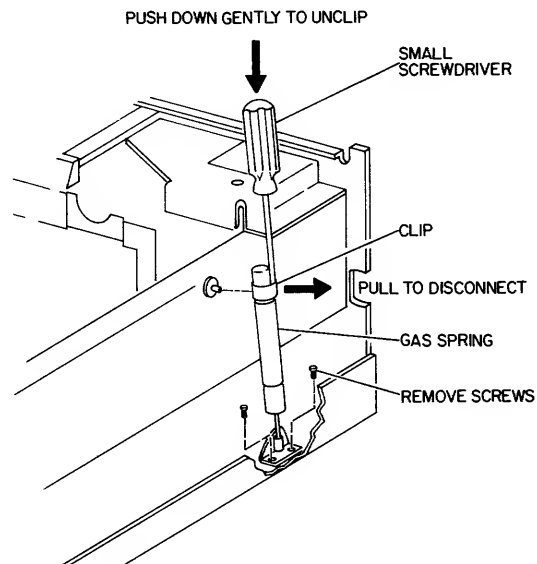

Figure 3-21. Gas Spring Removal
- a. With machine open, unclip and disconnect the left gas spring (refer to Figure 3-21, on next page).
6. UNCLIP AND DISCONNECT THE LEFT GAS SPRING (Figure 3-21).